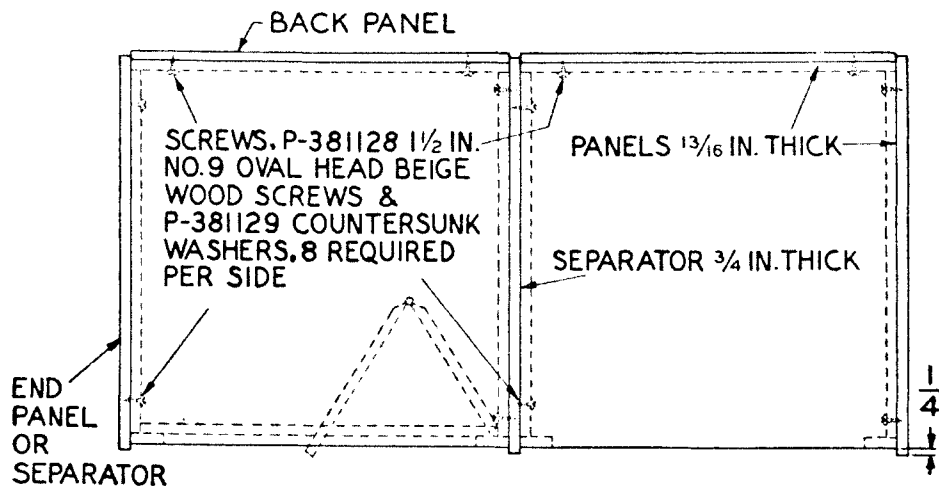

Fig. 1—Typical Layout
- 4.03 When assembled, the sides of the booth units should make contact with the separators or panels along their entire height. Assemble booths in accordance with the layout shown in Fig. 1.